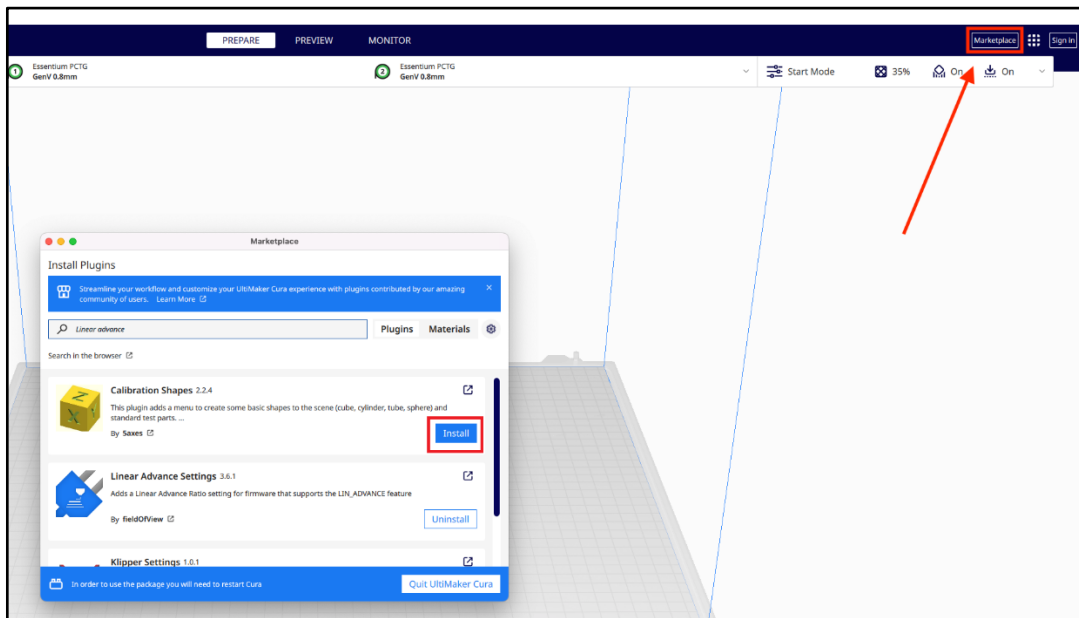

Figure 27: Adding Marketplace Plugins
17. Select 'Marketplace' at the top-right of the screen, and then search for each plugin name, and then click 'Install' (See Figure 27).